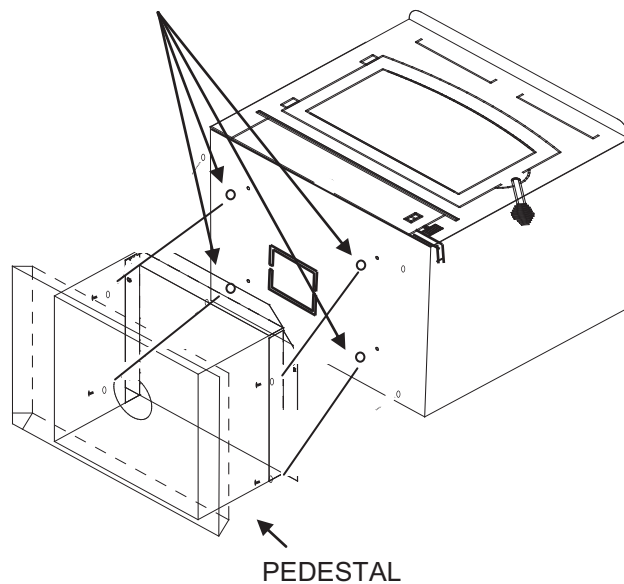

FIGURE 13
6. **(Pedestal Kit):** If pedestal kit is being used an outside air is required for residential freestanding installation (page 25 Out Side Air Installation). Open freestanding kit and obtain stand. Place stand against bottom of heater (angle side to heater). Center stand front to rear and also center stand left and right. Mark screw locations with pen or pencil on bottom of stove through outer holes of stand mounting angles. Set stand aside and drill four $7/32$ " holes in heater bottom. Then mount stand to bottom of heater with screws provided. (See Figure 13).
7. Obtain four (4) $3/16$ " self-tapping screws and secure stand to heater.